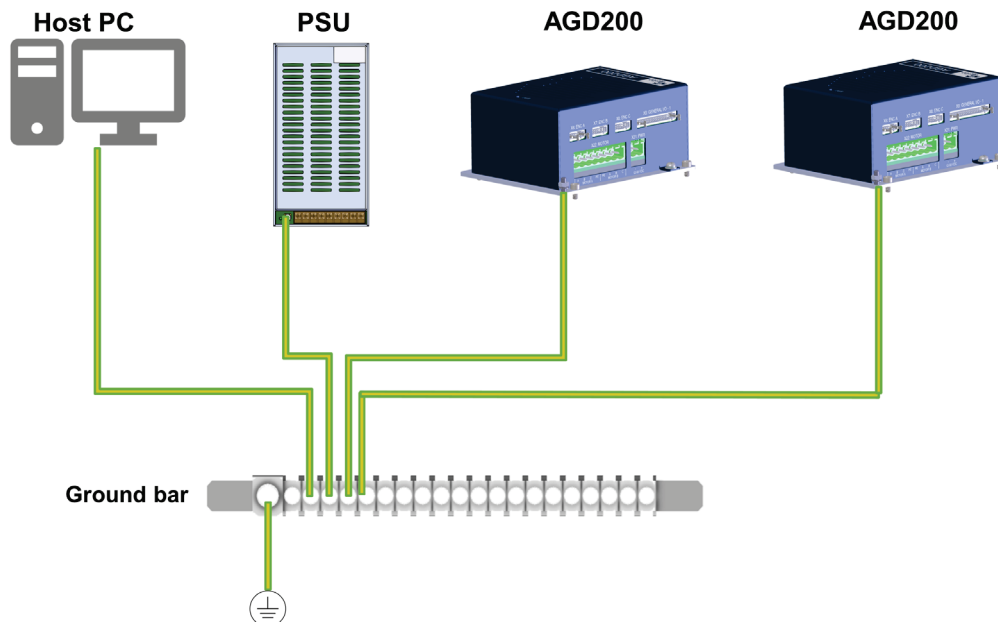

Figure 6. System grounding
- The AGD200 must be connected to protective earth (PE) and connected to the building's ground. PE is protected with an earth-leakage circuit breaker (ELCB); hence it is safe to touch. Refer to Figure 6.